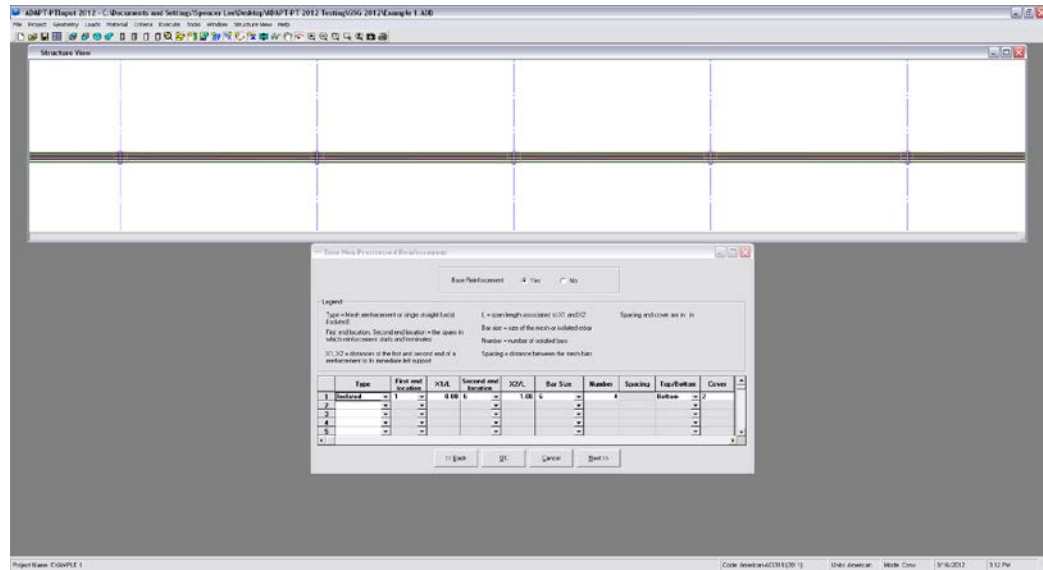

FIGURE 2.1-13
2.1.4.4 Edit Base Reinforcement (Fig. 2.1-13)